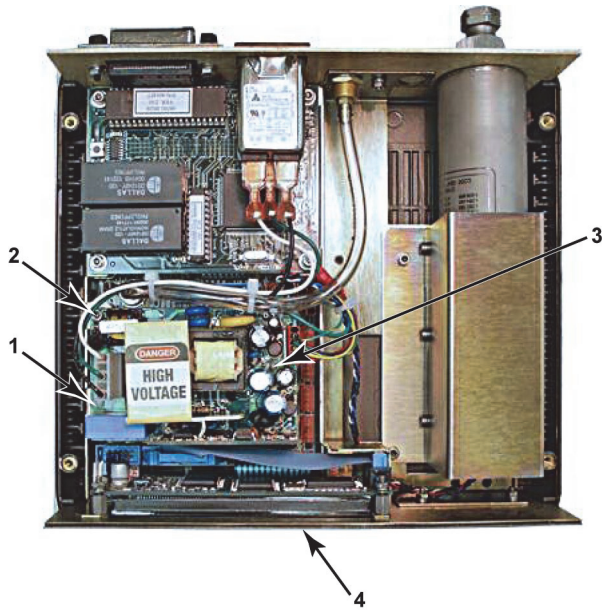

Figure 4. RPM3 Top View
- ❶ Disconnect power cord.
- ❷ Remove enclosure cover from unit (disconnect fan cable prior to completely removing cover).
- ❸ Remove chassis from enclosure base (lift straight out).
- ❹ Remove and discard the stainless steel screw and lock washer that secures the AC/DC cable ground lug to the Mini Micro board.
- ❺ Remove the cable ties that secure the AC/DC cable (PN 402060). Detach the AC/DC cable from the power supply, main board and AC receptacle. Discard the AC/DC cable Assembly.
- ❻ The power supply is mounted in three (3) places with a stainless steel screw, a nylon screw, nylon washers and a locking plastic standoff (see Figures 4 and 5).